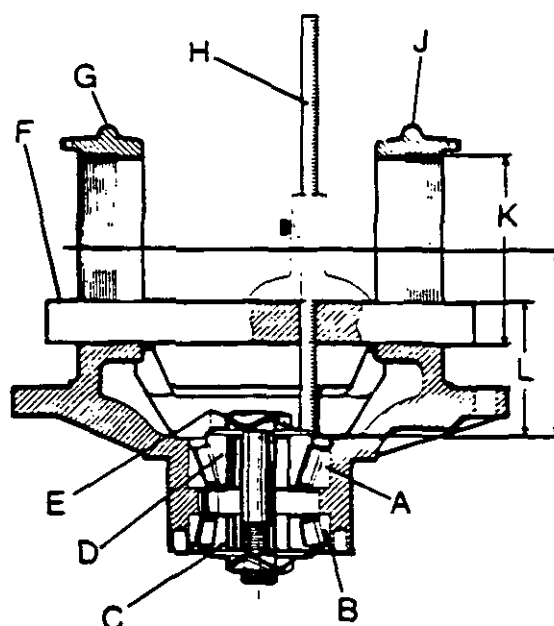
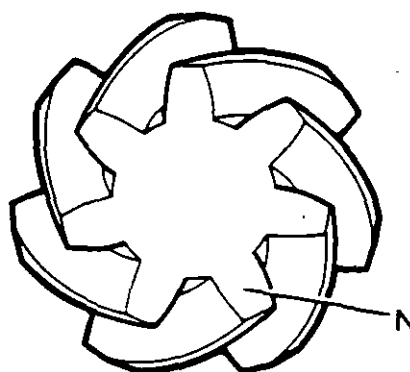

FIGURE 15 SETTING THE BEVEL PINION
FIGURE 16
- A shaft F as shown in Figure 15.
3. Install and tighten the bearing cap nuts. See Figure 15 for the next operations.
7. Use the inside micrometer to measure the diameter of the bore. Make a note of this measurement (K).
9. Measure the distance between the top of the shaft and the face of the bearing cone. Make a note of this measurement (L).
10. Look at the face of the bevel pinion. Make a note of the number (N). See Figure 16.
11. It is necessary to find the pinion distance (M). To do this, make the following calculation.